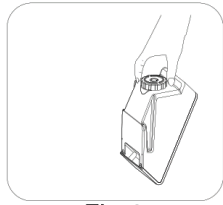

Fig. 8
- Will hang on a machine on the flat ground and took out the army opened the cover, fasten the lid with clockwise. as in fig. 8